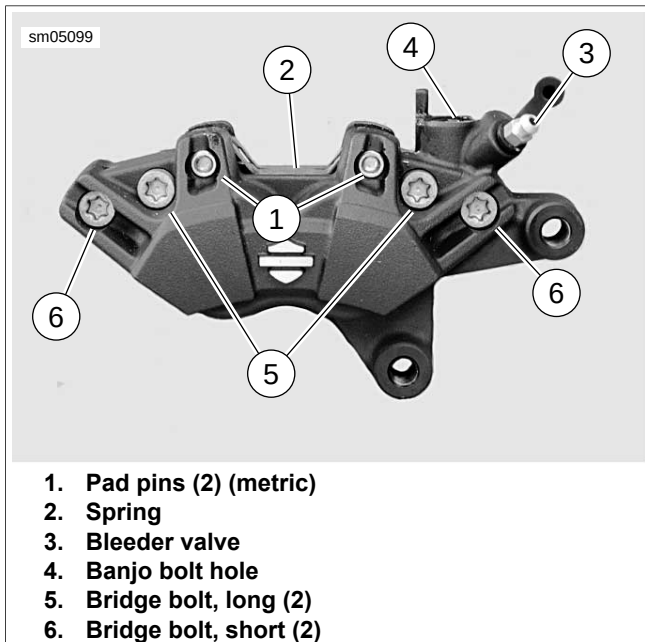
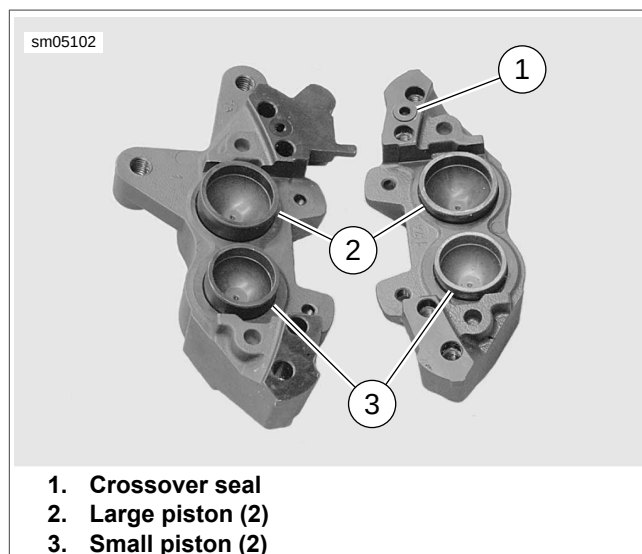

Figure 2-78. Preparing Caliper for Piston Removal
Figure 2-80. Caliper Housings and Pistons
1. See Figure 2-78. Remove brake pad pins (1) and anti-rattle spring (2).
2. Slide one brake pad out of caliper assembly. Do not remove bleeder valve (3) at this time.
3. With one brake pad in the caliper, loosely install brake pad pins (1) to hold brake pad in place.
4. See Figure 2-78. Gently apply low pressure compressed air to banjo bolt hole (4) to force pistons from caliper bores.
9. See Figure 2-78. If necessary, remove bleeder valve (3).
3. See Figure 2-80. Carefully insert pistons (2, 3) by hand, nose radius first, into caliper bores. If installation shows resistance, remove piston(s) and check that seals are properly installed and fully seated in grooves. Press pistons completely into bores.
4. Install **new** crossover seal (1).
5. See Figure 2-78. Install bridge bolts (5, 6).